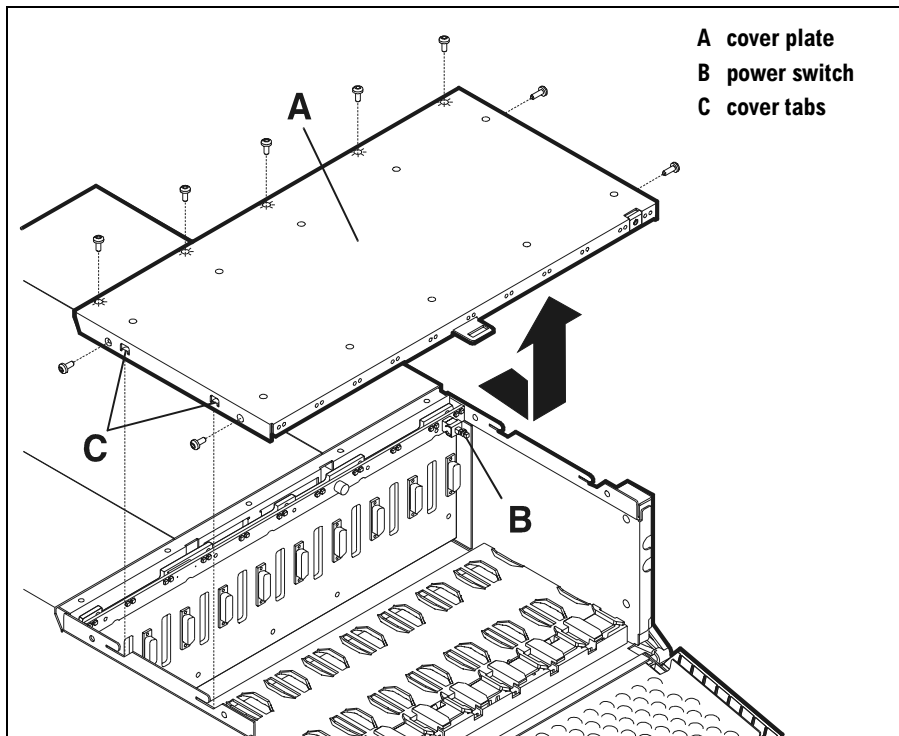

Figure 52 Top Cover Assembly
2. Remove the nine Torx T10 screws from the back and side edges of the cover plate (A in Figure 52). Screws are marked by a star pattern in the sheet metal.
1. When you are ready to replace the cover, set the cover on the chassis so that the tabs (C in Figure 52) settle into the slots in the upper edge of the chassis.
2. Slide the cover to the middle of the chassis. The push rod automatically engages the internal switch (B in Figure 52).